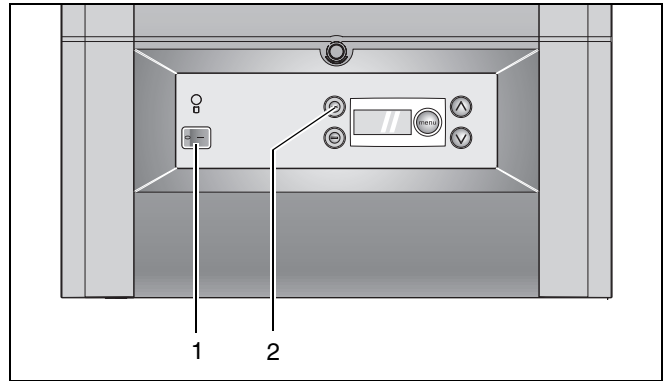

fig. 49 DBA front
- Take the boiler out of service by pressing the mains switch (fig. 49, item 1) to "0".
- Set the mains switch (fig. 49, item 1) to "1".
- Create a heat demand by pressing the service button "A" (fig. 49, item 2), until an open-end spanner "F" appears in the top left hand corner of the display.
- Turn mains power switch to "0" (fig. 49, item 1).
- Set the mains switch to "1" (fig. 49, item 1).
- Set mains power switch to "0" (see fig. 49, item 1).
- Turn the mains power switch to "1" (see fig. 49, item 1).
- Turn the mains power switch to "0" (see fig. 49, item 1).
- Set mains power switch to "1" (see fig. 49, item 1).
- Set the mains power switch to "0" (see fig. 49, item 1).
- Set the mains power switch to "1" (see fig. 49, item 1).